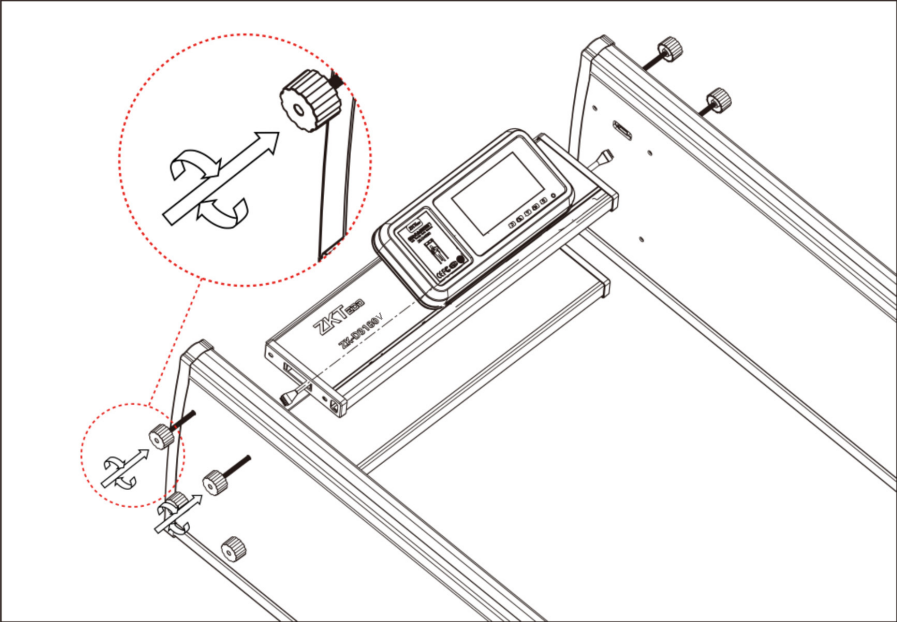

Figure 3-9
**Step 9:** Connect the front cross beam with the left and right door panels with bolts and tighten all the bolts, as shown in the figure 3-9 below.